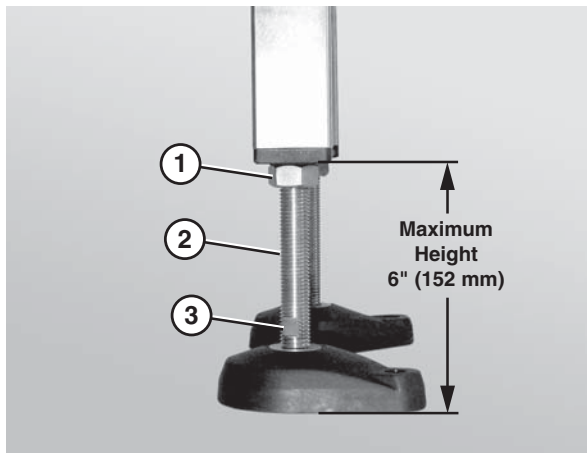

Figure 18
1. Loosen the nut (Figure 18, item 1) on the foot stem (Figure 18, item 2).
2. Rotate the foot stem using an adjustable wrench on the foot stem flats (Figure 18, item 3) to raise or lower the stand to the desired height.
5. Tighten the nut (Figure 18, item 1) on the foot stem (Figure 18, item 2) to secure each foot assembly.